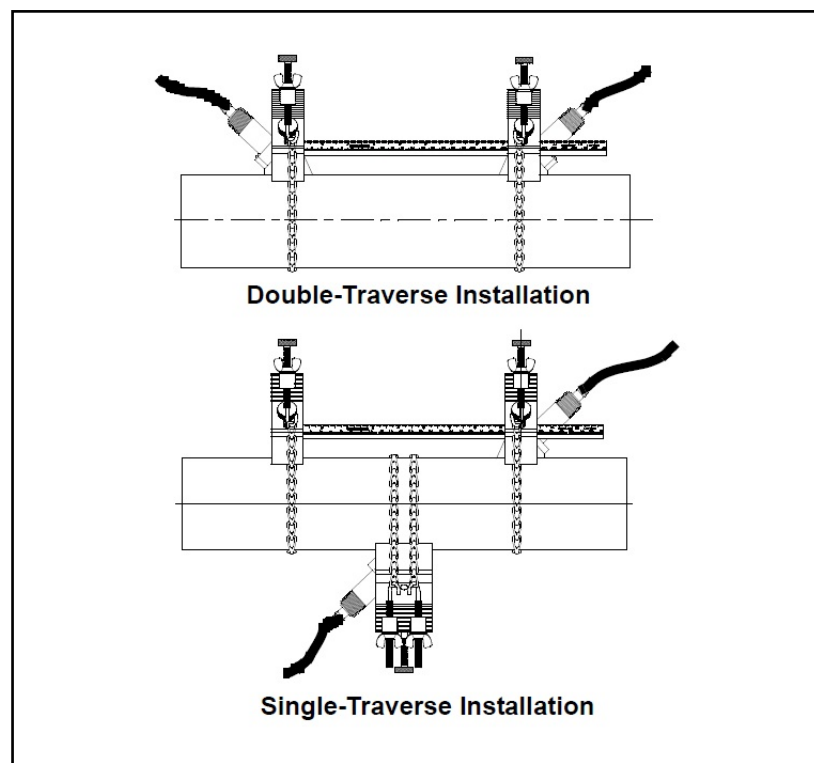

Figure 30: Completed UCF Installations with Transducers
5. Repeat Steps 1-4 to mount the other transducer in the fixed short block. See *Figure 30* on the following page for completed typical UCF installations.